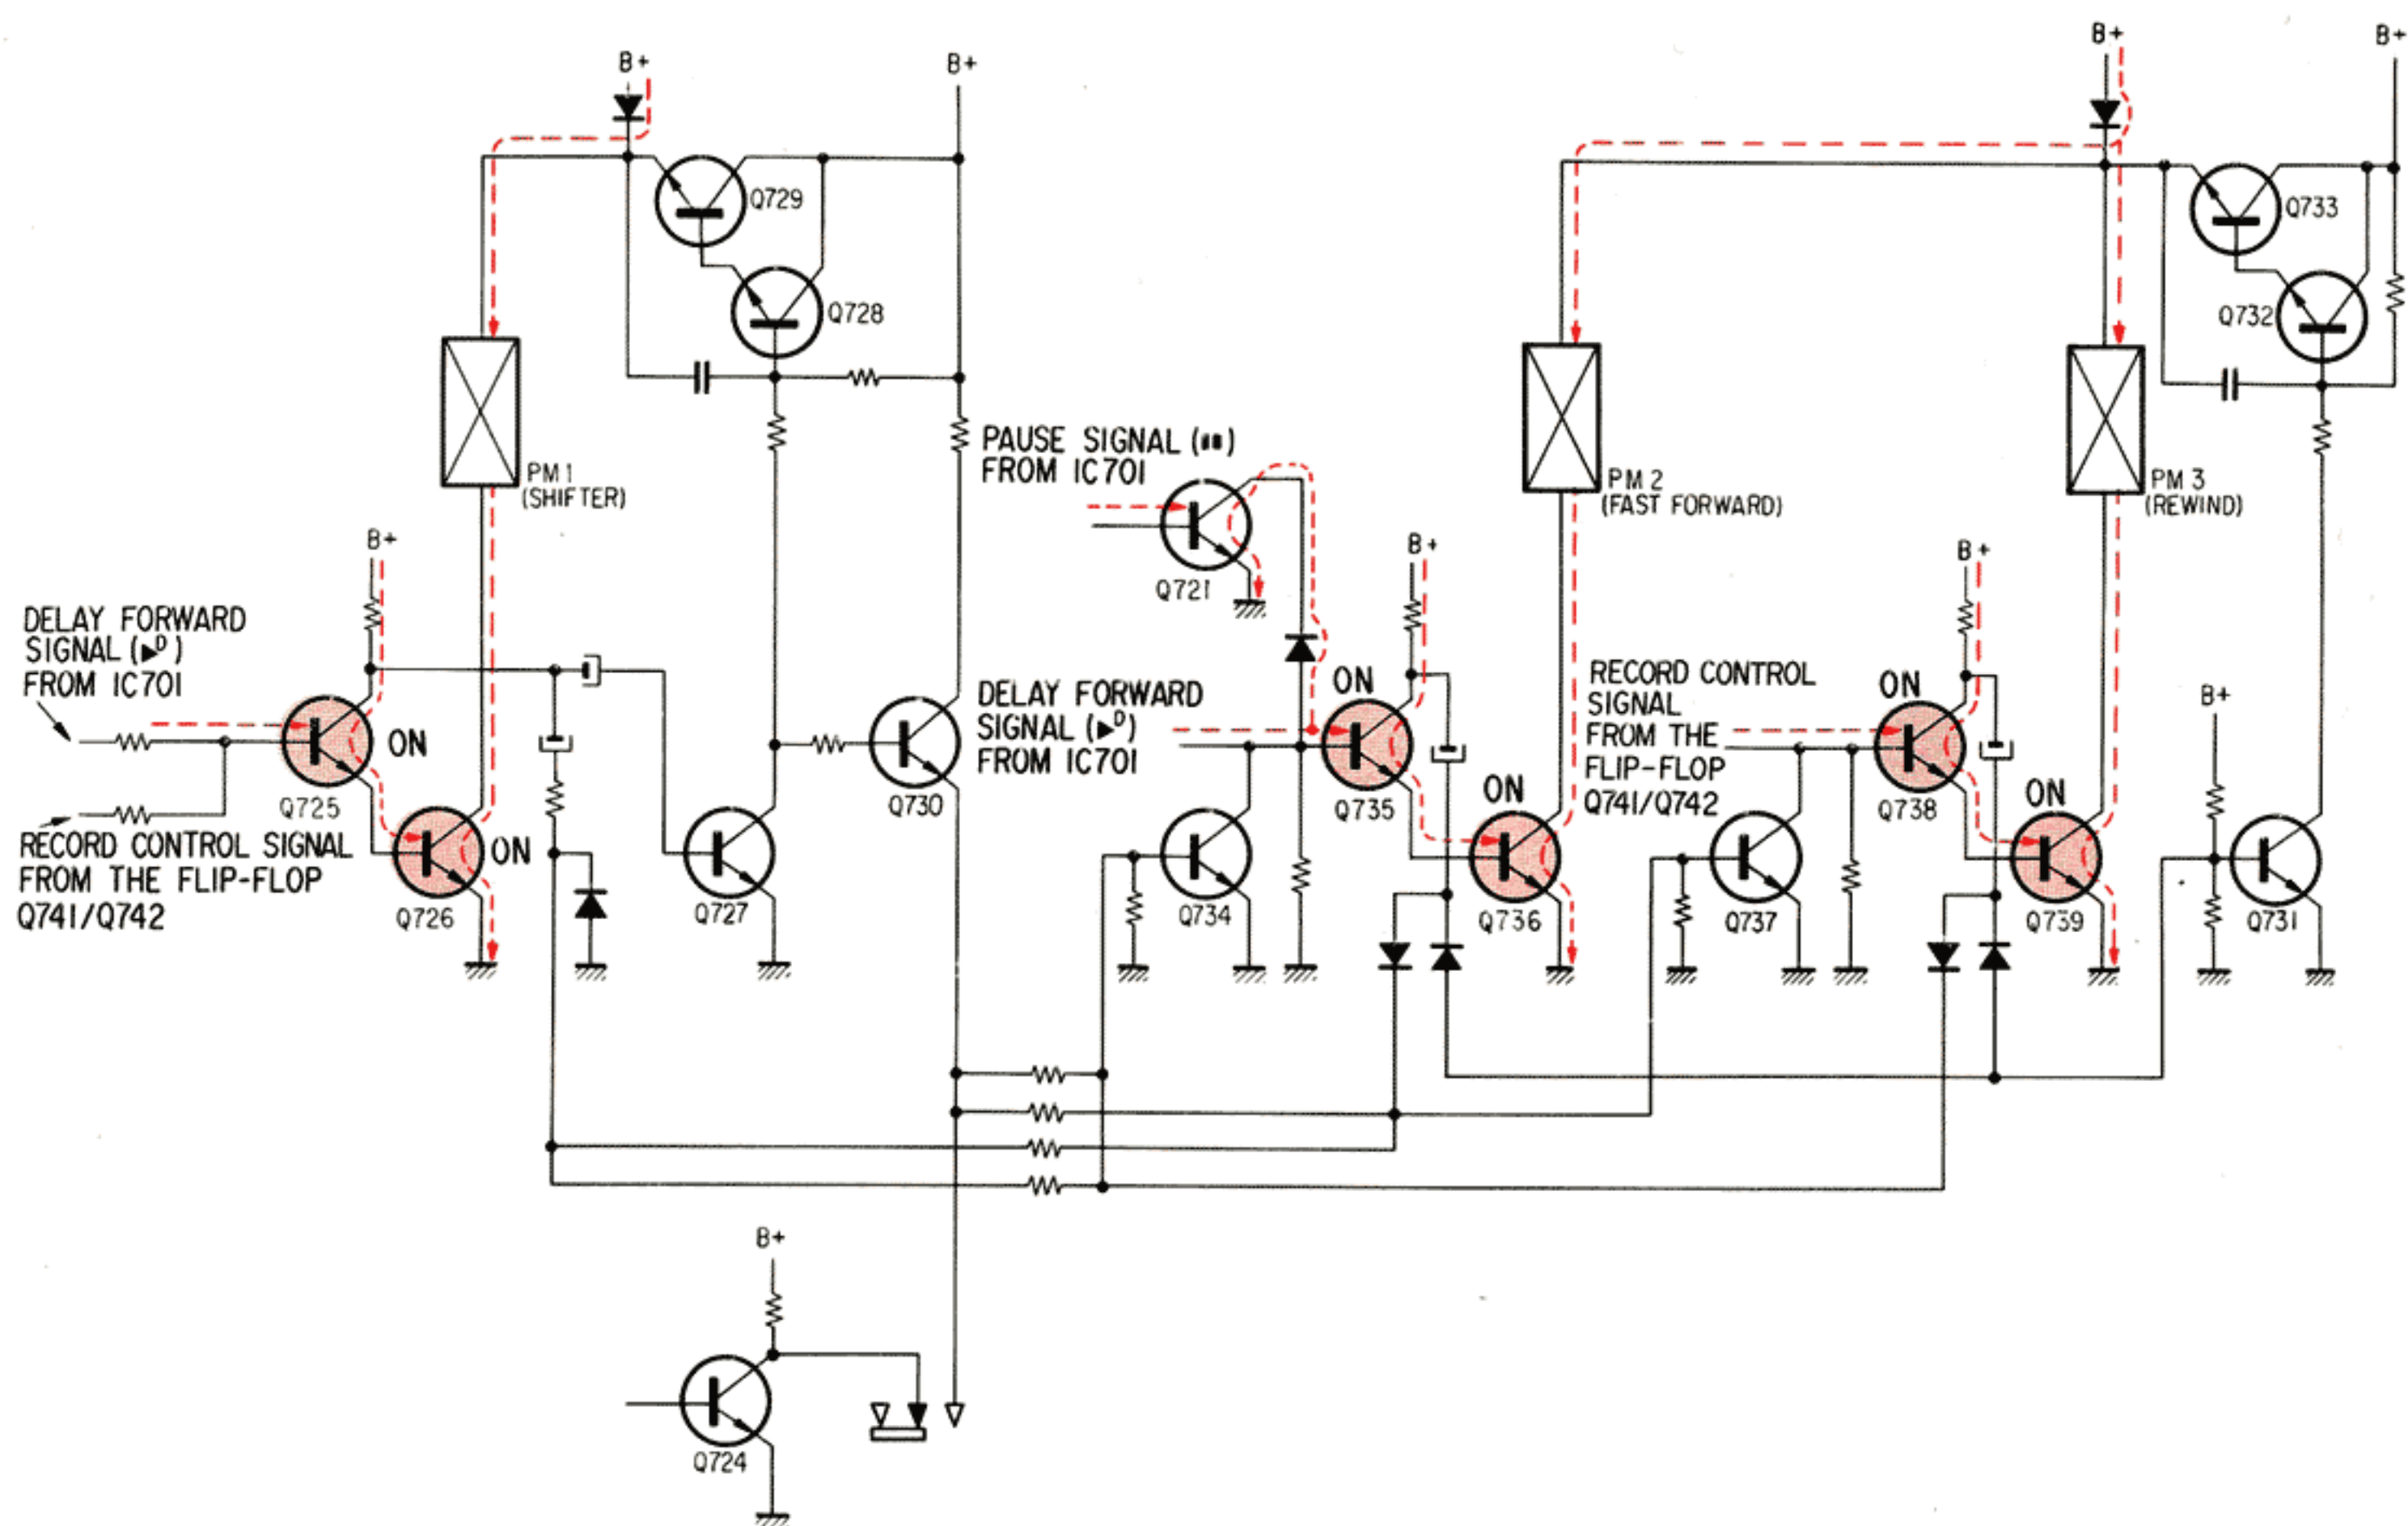

Fig. 1-5 Record/PAUSE Mode
3. STOP mode → record mode (energized PM1, PM2, PM3) (See Fig. 1-5)
4. Record mode → PAUSE mode (energized PM1, PM2, PM3 → de-energized PM2) (See Fig. 1-5)